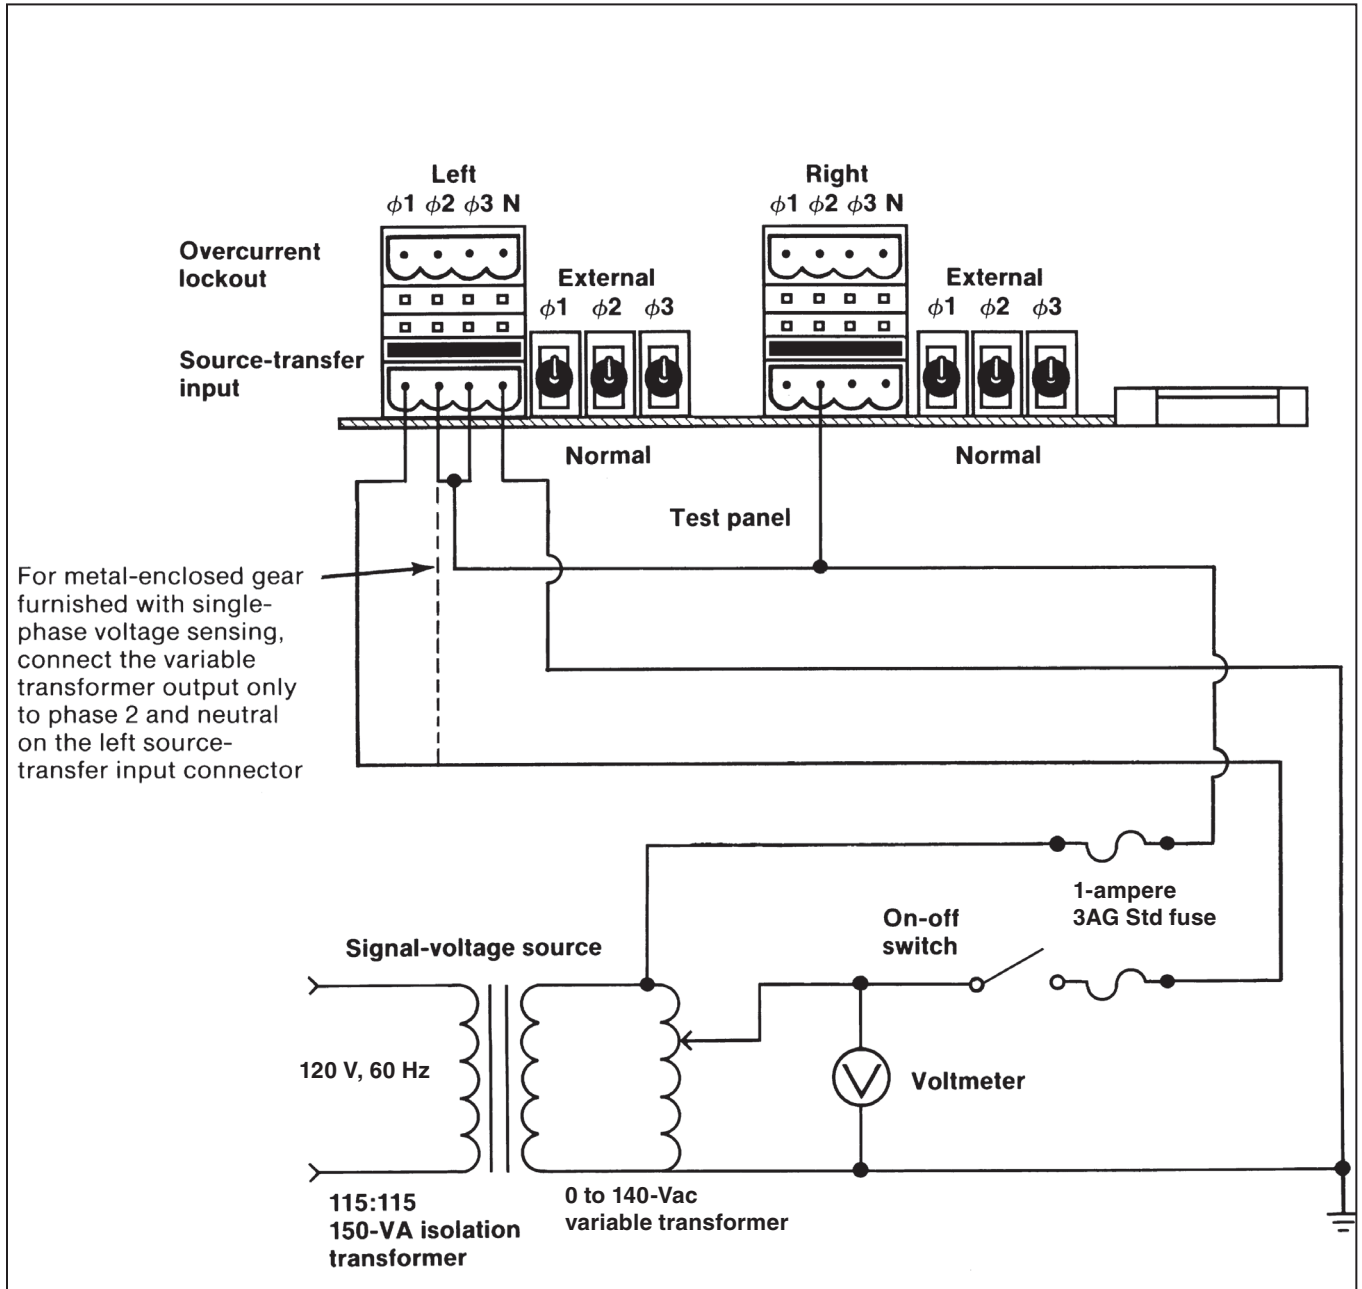

Figure 3. A single-phase source test-circuit connection diagram for metal-enclosed switchgear applications.
If a 0 to 140-volt, 60-Hz three-phase signal voltage source with variable phase shift is not available: Make up the single-phase source test-circuit connections, as shown in Figure 3 on page 9. This test circuit cannot be used to test operation of the unbalance detection feature in response to a phase-angle unbalance.
- STEP 7.** ***For metal-enclosed switchgear furnished with single-phase voltage sensing:*** Make up the single-phase source test-circuit connections to Phase 2 and neutral on the left source-transfer input connector and to Phase 2 on the right source-transfer input connector as shown in Figure 3 on page 9.
If the single-phase source test circuit shown in Figure 3 on page 9 is used: Repeat Steps 12 through 16 for Phase 2 and then for Phase 3. When inputting signal voltage to Phase 2, de-energize the signal-voltage source and jumper Phases 1 and 3 of the left source-transfer input connector (instead of Phases 2 and 3 as shown in Figure 3 on page 9). Then, energize the signal-voltage source. When inputting signal voltage to Phase 3, de-energize the signal-voltage source and jumper Phases 1 and 2 of the left source-transfer input connector. Then, energize the signal-voltage source.